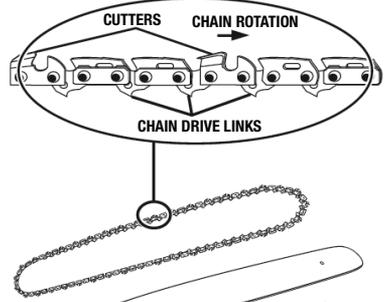

FIG 29
- Place the chain drive links into the guide bar groove. Position the chain so there is a loop at the back of the guide bar. See fig 29 & 30.